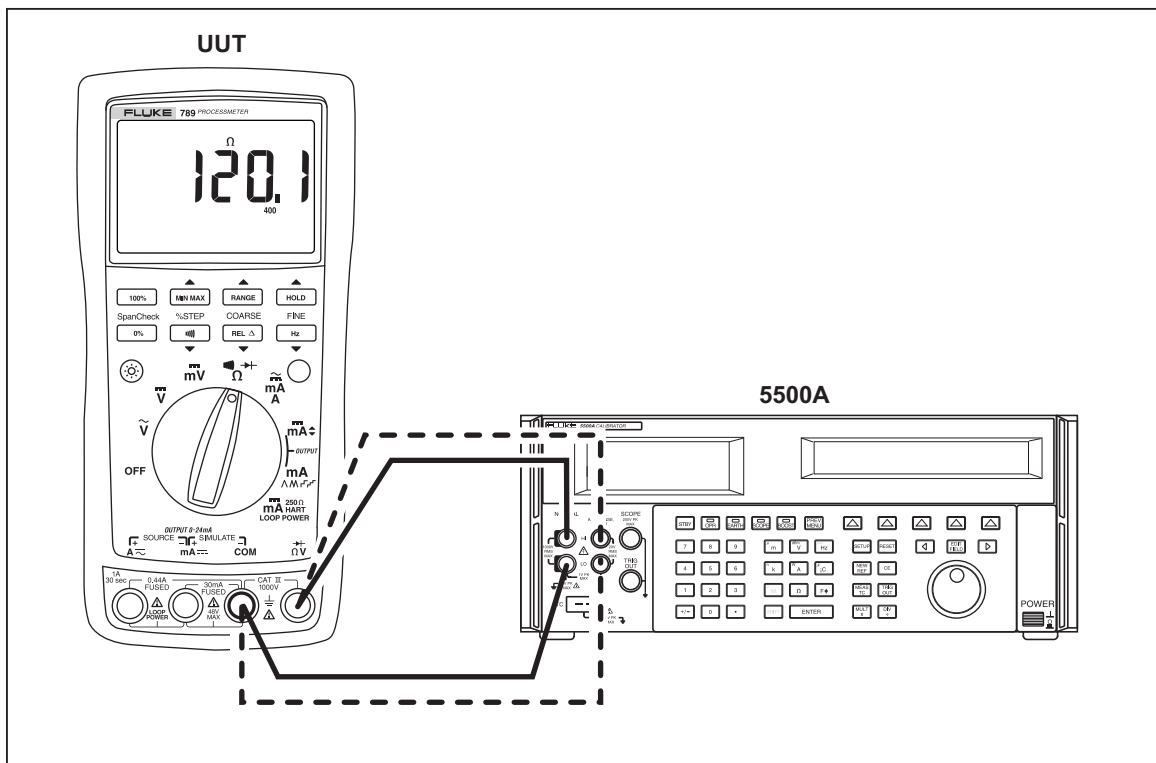

Figure 7. Resistance Measurement Test Connections
3. Connect the **OUTPUT** and **SENSE** leads of the calibrator to the UUT as shown by the solid and dotted lines in Figure 7.
5. Change the connections to the UUT. Using the Fluke 5440A-7002 low thermal leads, connect the calibrator to the UUT as shown by the solid lines in Figure 7.